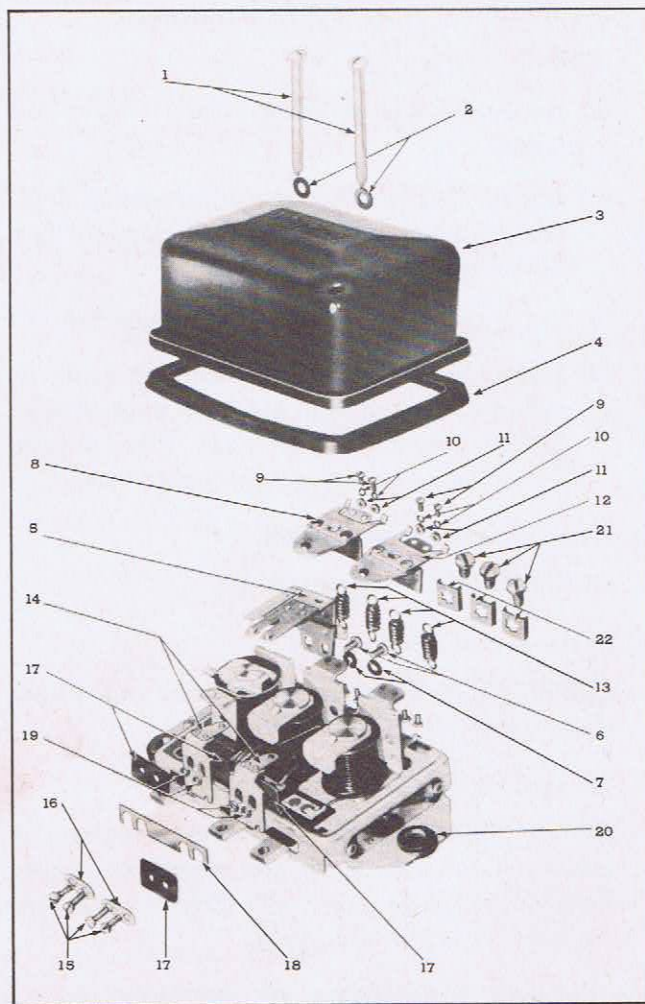

FIG. 15—TYPICAL CURRENT AND VOLTAGE REGULATOR DETAILS AND RELATIVE LOCATION OF PARTS.
3. Reconnect the "F" terminal lead, remove the regulator cover (3), Fig. 15, and depress the voltage regulator armature (12) manually to open the points.